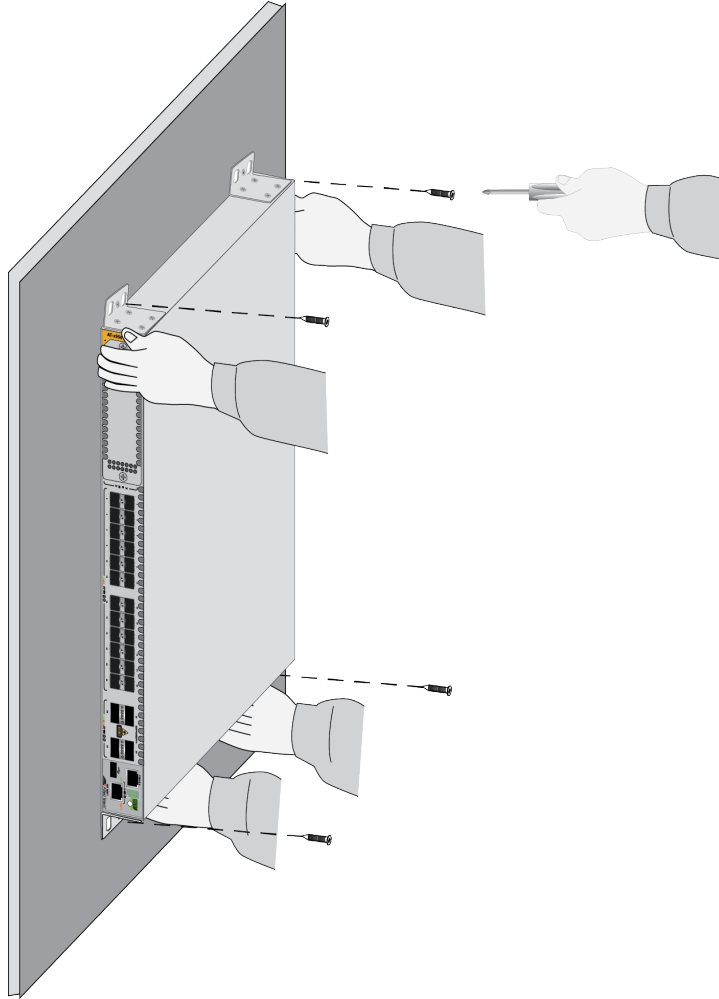

Figure 95. Installing the Switch on a Concrete Wall
7. Have two people hold the switch at the selected wall location while you secure it to the wall with the four provided screws. Refer to Figure 95.